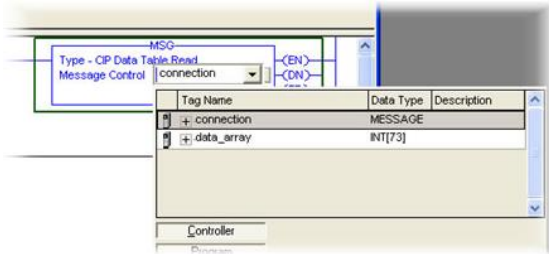

Figure 52: MSG Instruction Tag Assignment
a) Edit the "Message Control" field on the MSG instruction to use the previously-created "connection" tag. Refer to Figure 52.